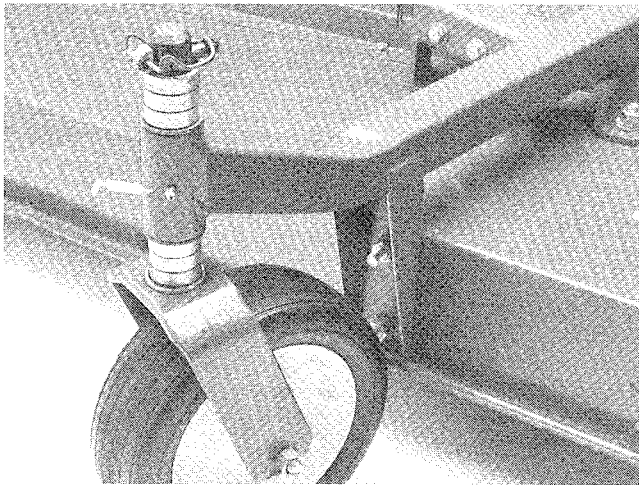
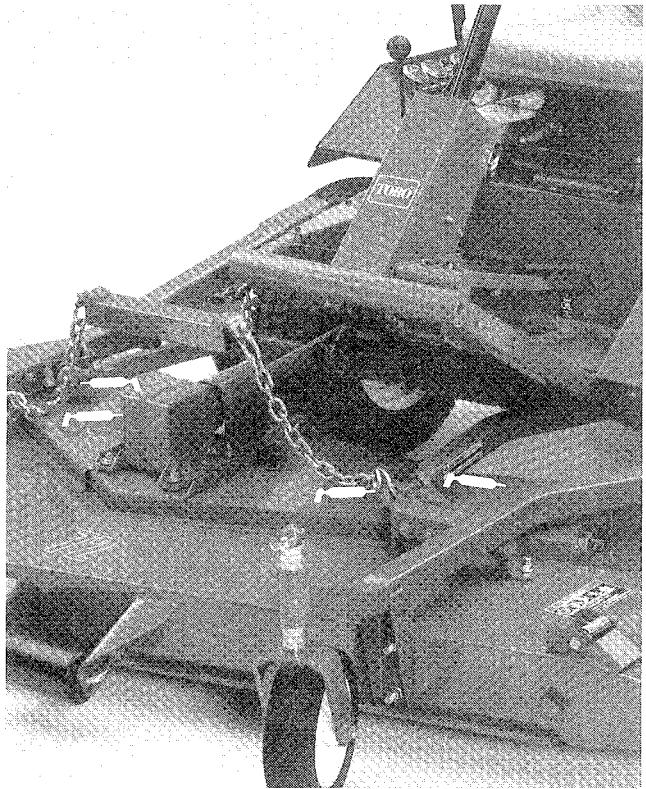
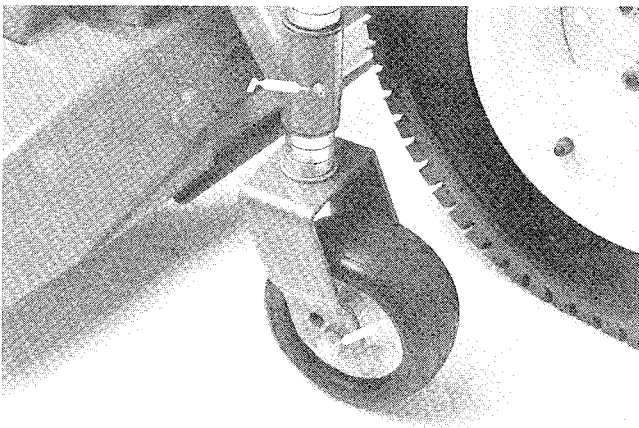

Figure 19
Figure 22
Figure 20
1. The cutting unit has bearings and bushings that must be lubricated, and these lubrication points are: caster spindle bushings (Fig. 19 and 20); caster wheel bearings (Fig. 20 and 21); blade spindle bearings (Fig. 22); right and left push arm ball joints (Fig. 22).